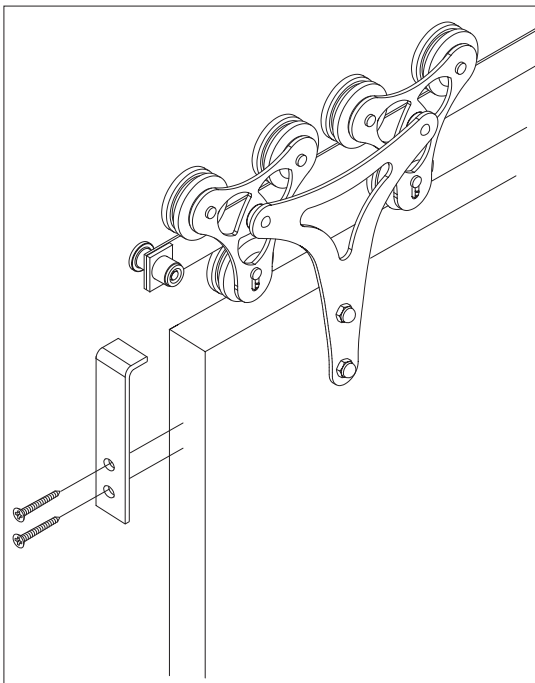

Figure 10
19. Install the bracket to the door edge with 2 phillips screws (provided) using a drill with a phillips bit (Figure 10).